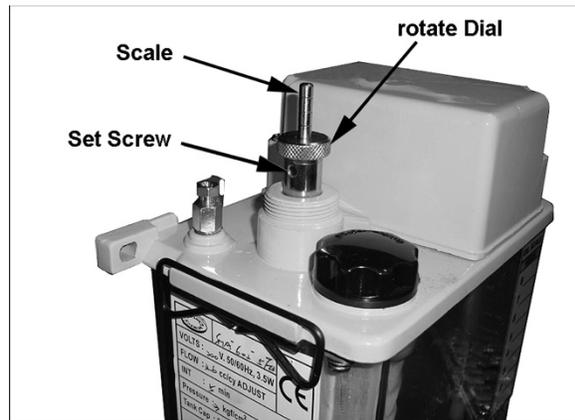

Figure 17
2. Loosen set screw (Figure 17) and rotate knurled dial clockwise to increase oil output; counterclockwise to decrease oil output. The scale is in cubic centimeters.